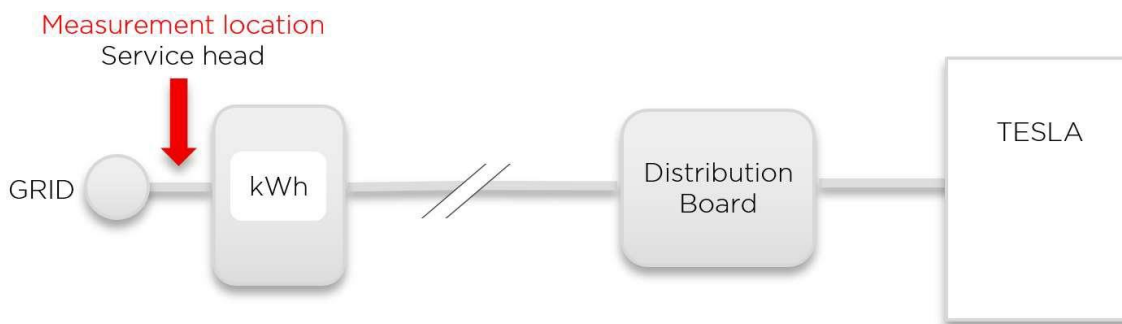

Figure 29: Impedance Measurement Location Before Designing the System
Measure the impedance between Line and Neutral at the service head, as shown in Figure 29, and compare it to the values in Table 1. The sensitivity of the system to line impedance increases with the number of Powerwalls in the system, therefore the maximum allowable impedance relates to the number of Powerwalls. If the measurement exceeds the maximum allowable value, do one of the following:
4. Follow manufacturer instructions to take an impedance measurement at the service head (Figure 29). Switch the tester to the appropriate impedance measurement mode and take the readings between Line and Neutral.